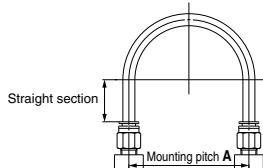
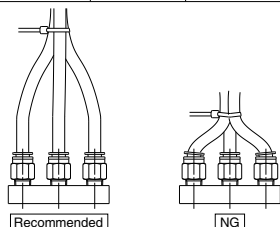

Fig. 1 Recommended piping
Fig. 2 When using a unifying band to bind together the pipes
- When installing piping in the one-touch fitting, please make sure there is sufficient slack to the tube length as per the recommended piping conditions shown in Figure 1. Also, when binding pipes together with a unifying band, etc., make sure piping is carried out without receiving external force (See Fig. 2).